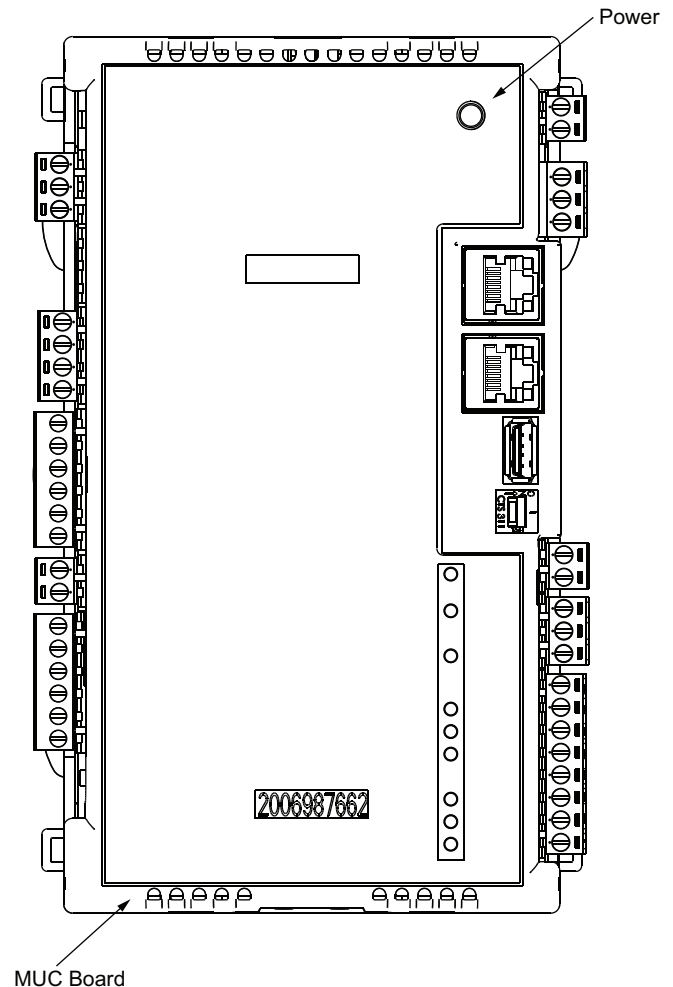

Fig. 6 — LED Locations
- Restore power to the power supply and verify that the Power LED is on (in the controller module). See Fig. 6 for Power LED location.